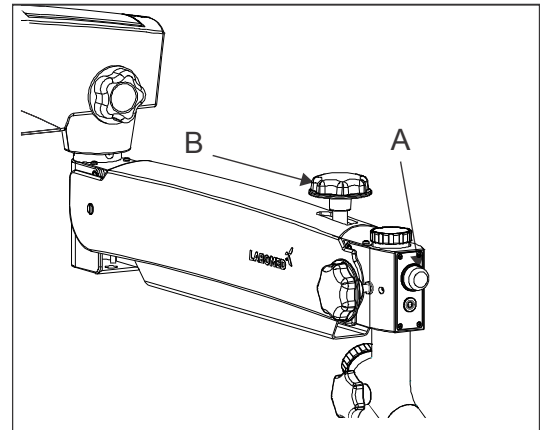

Fig. 10
It is located in front of the suspension arm shown as (A) in Fig. 10. Brightness of field of view can be adjusted as per user comfort using intensity control knob.
This knob helps you to lock the movement of swivel arm at the desired position after initial focusing of the attendance area by turning it clockwise, knob is shown as (B) in Fig. 10 .
- 3 Lock the Up & Down movement of suspension arm using locking knob (B) shown in fig. 10 after coarse focusing of area of interest.